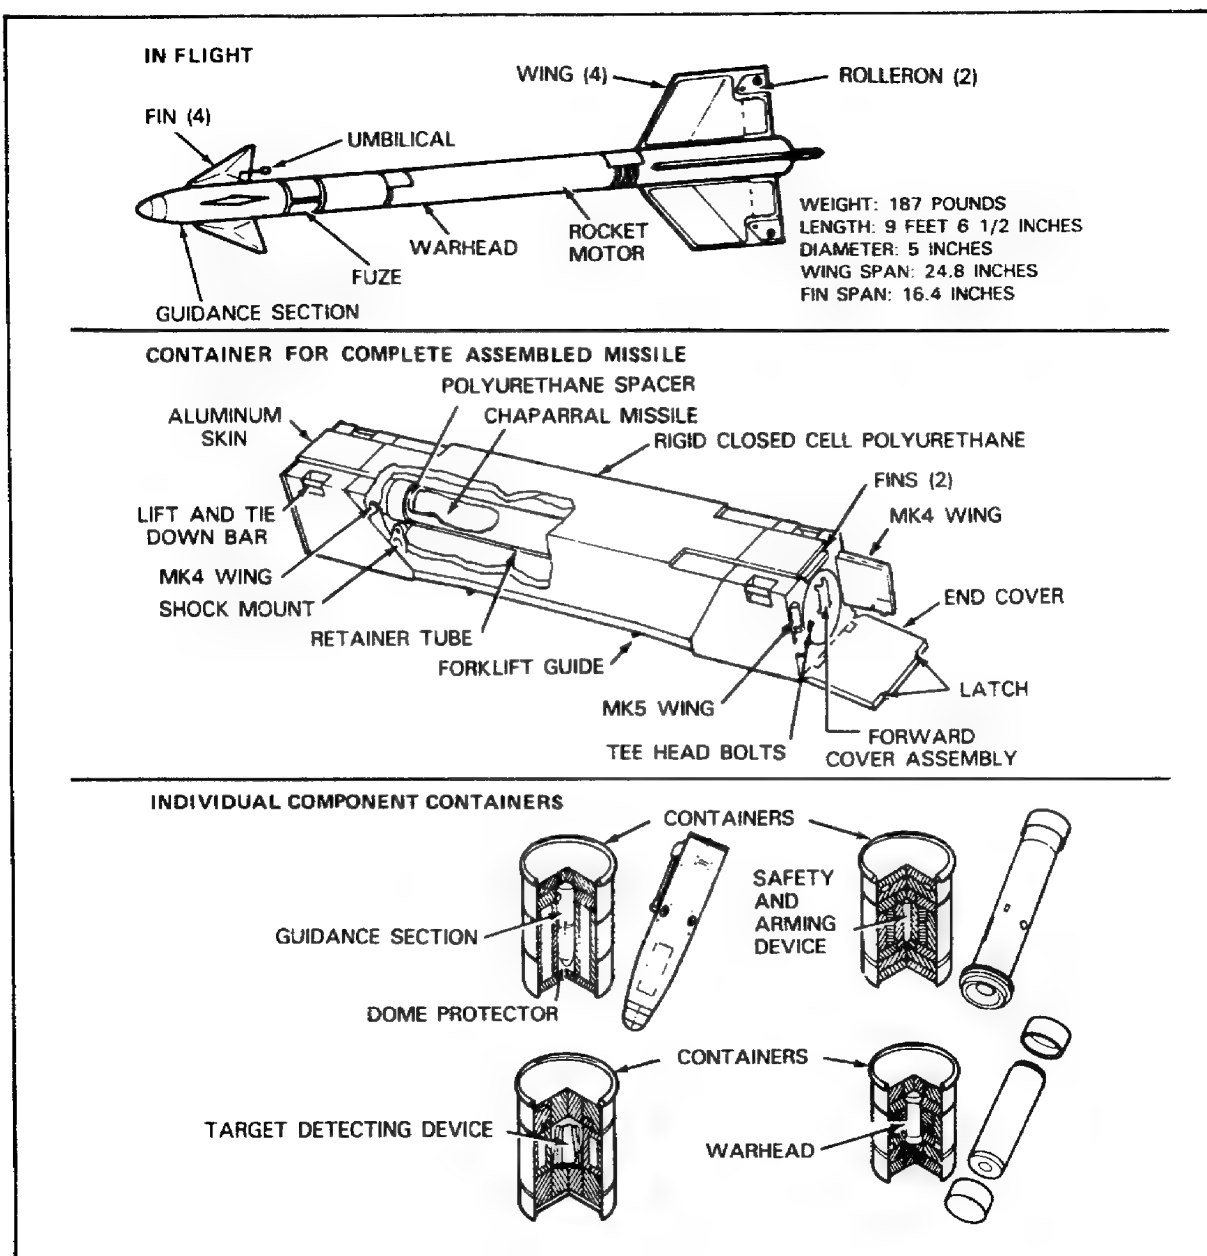

Figure 78. Chaparral Air Defense Guided Missile.
**Chaparral.** The Chaparral (Figure 78) is an air defense guided missile used in forward areas for defense against low- and medium-altitude aircraft. It is fired from a tracked vehicle or from a ground mount.